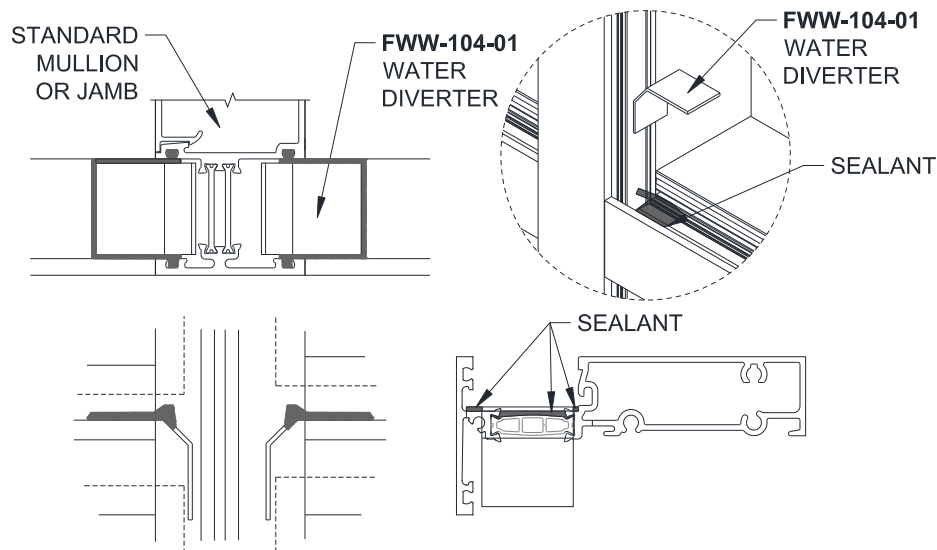

Figure 83: Water Diverter Installation
- 25.1 At Standard Mullions and Jambs, install Water Diverters. Place a bed of sealant on the end of the Horizontal and place the Water Diverter. *Figure 83* shows the various views for the Water Diverter installation. Embed the Water Diverter in Sealant and seal around the Horizontal to guide water flow.